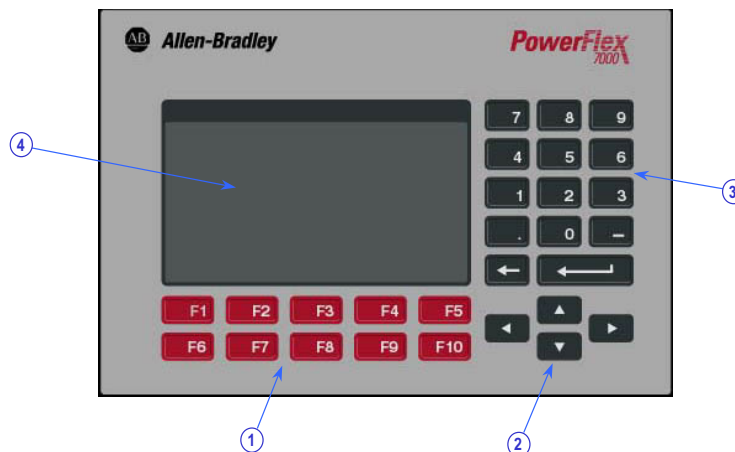

Figure 3.1– PowerFlex 7000 Drive Operator Interface Terminal
The operator interface used on the PowerFlex 7000 Medium Voltage Drive is that of the PanelView 550 terminal (Figure 3.1). This terminal however does not behave as a PanelView, as only the hardware for the operator interface has been utilized. The PanelView software has been replaced with unique software to tailor it to the requirements of the Medium Voltage Drive, and its faceplate has been modified (Figure 3.1).
The keypad of the operator interface consists of two rows of five function keys (item 1 of Figure 3.1) located below the operator interface display area (item 4 of Figure 3.1). In the lower right corner of the operator interface are four keys, which will be referred to as the cursor keys (item 2 of Figure 3.1). Above the cursor keys are data entry keys consisting of the numeric values 0-9, a decimal point (.), a negative (-), a backspace key and a data entry key (item 3 of Figure 3.1).